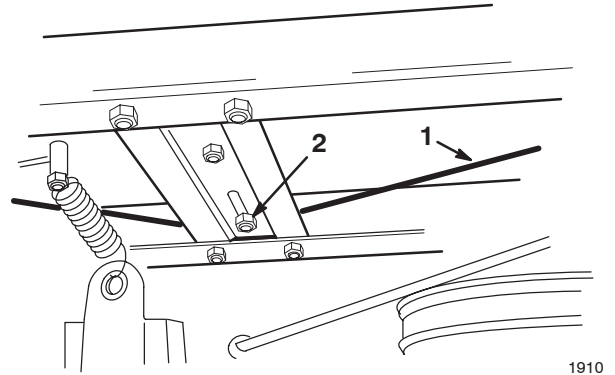

Figure 12
2. Check the cable tension. The cable should be taught and have 1/2 in. (13 mm) movement when you apply a slight pressure to the cable (Fig. 12).
5. Slide the guide sideways as needed, for proper tension (Fig. 12).